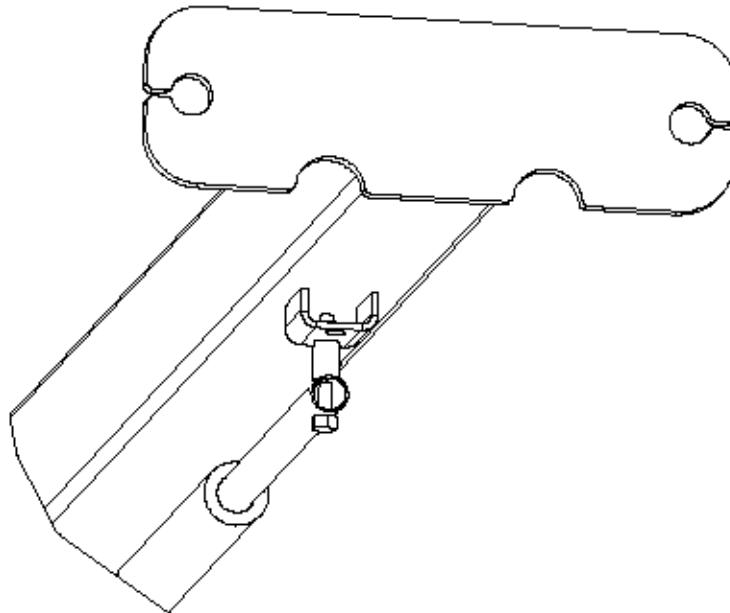

Figure 10
- * Slide the end of the padded switchbar without a mounting hole in it through the slot in the overhead switch assembly. Connect the padded switchbar to the inside hole in the overhead beam using a cylindrical spacer, $\frac{1}{4}$ -20 X $1\frac{3}{4}$ HHCS, and Flange Nut, figure 10.